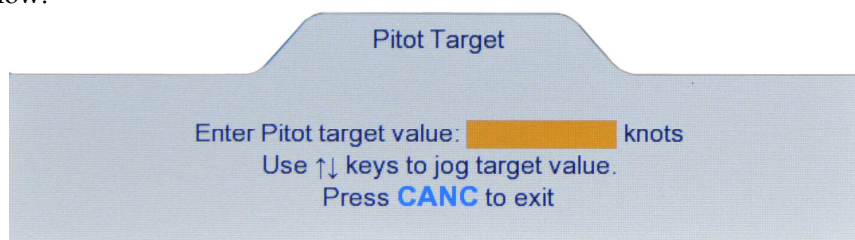

Figure 3.7 : Pitot Target value
The Pitot Target value can be changed only if the key# symbol (2) is displayed to the left of the Pitot Target value field. Press key '2' on the keypad and the Lower section of the display will appear as shown in Figure 3.7 below.
Lower screen appears as in Figure 3.7 above, pressing the **Up-Arrow** key will make the screen appear as shown in Figure 3.8 below.